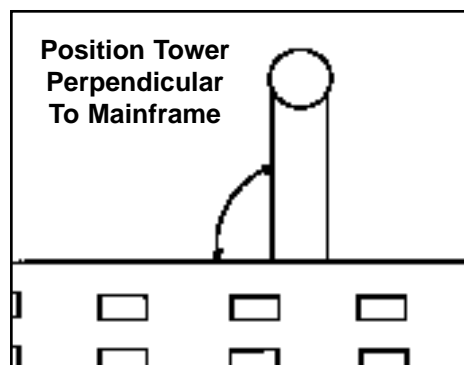

Figure 13
2. Rotate tower so it is perpendicular (90 degree angle) with mainframe. (See Figure 13.)